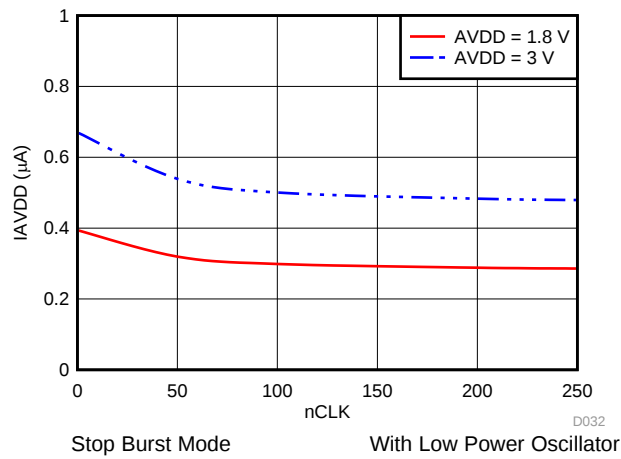
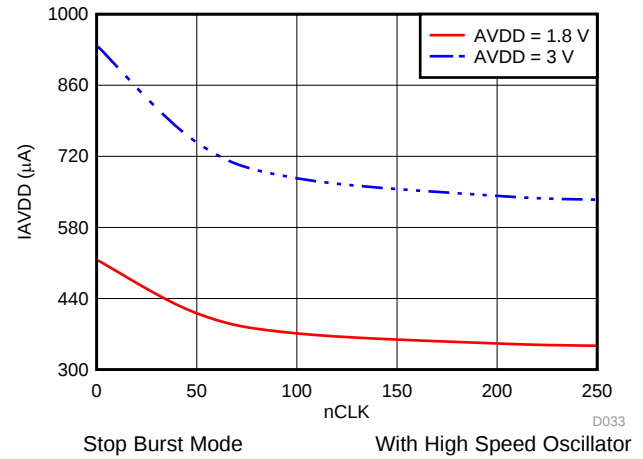
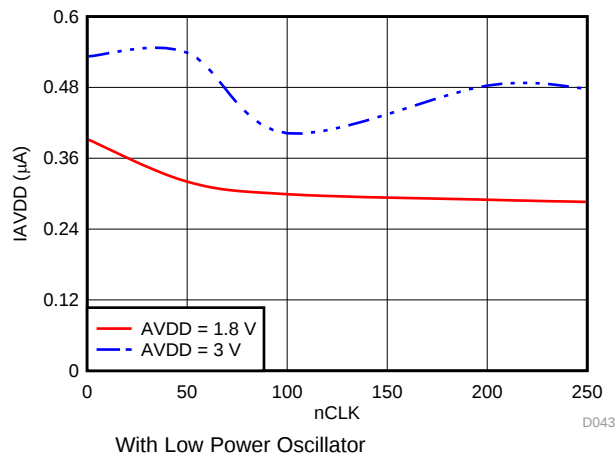
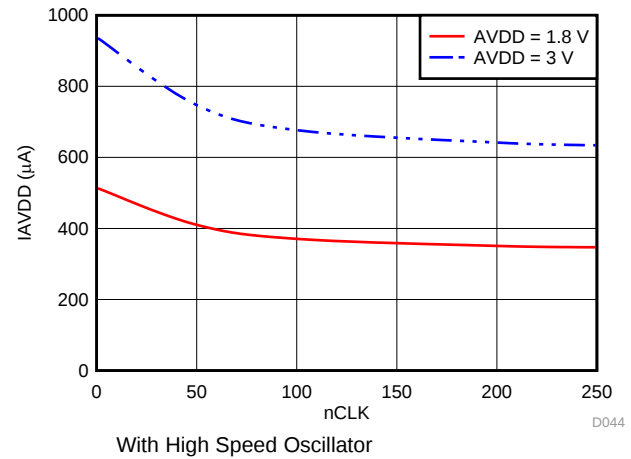

图 71. I_{AVDD} in Autonomous Modes with nCLK
图 72. I_{AVDD} in Autonomous Modes with nCLK
图 73. I_{AVDD} in High Precision Mode with nCLK
图 74. I_{AVDD} in High Precision Mode with nCLK
- In *Autonomous Modes* and *High Precision Mode*, the balance between sampling speed and power consumption can be obtained by selecting the oscillator for conversion and setting the nCLK value. The device sampling speed and power consumption reduce by increasing the nCLK value. Refer to 图 71, 图 72, 图 73 and 图 74 for current consumption in Autonomous modes and High Precision mode with different nCLK values.